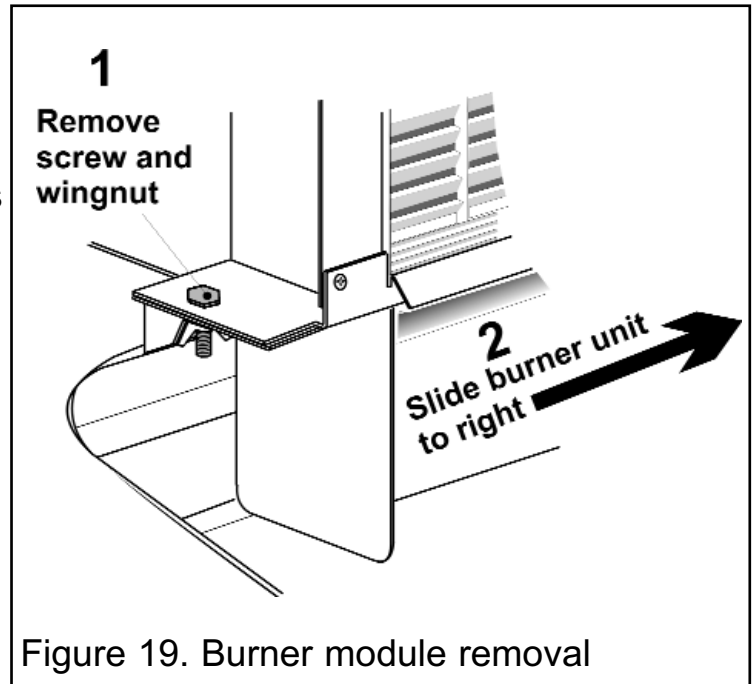

Figure 19. Burner module removal
4. Detach the left end of the burner module from the radiant box by removing one screw and a wing nut (See figure 19).
5. Carefully slide the burner module to the right to free it from the right side of the radiant box (See figure 19).